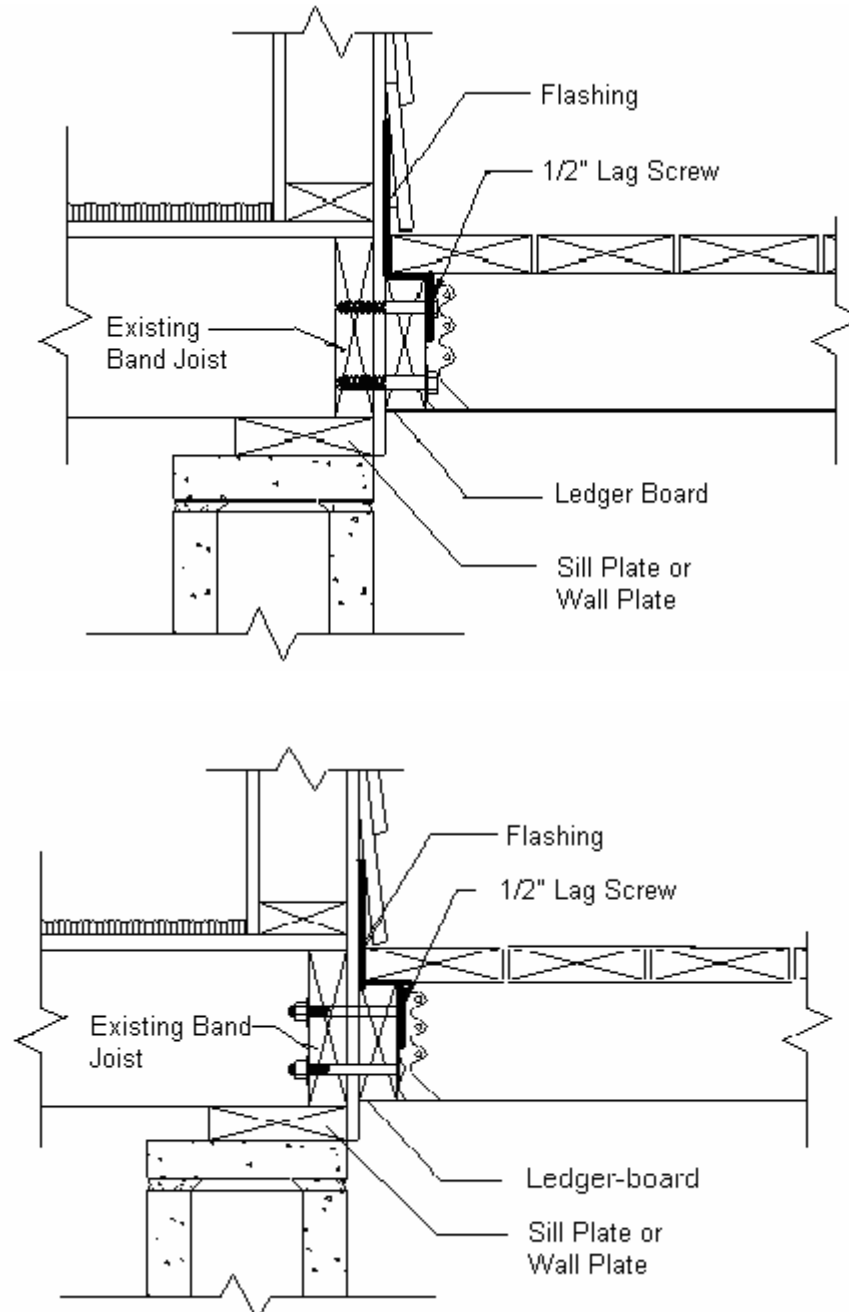

FIGURE 12: Ledger Attachment to House Band-joist
- Ledgers shall be flashed to prevent water from contacting the house band joist (See Figure 12, 13, 14 and 18 for flashing details).